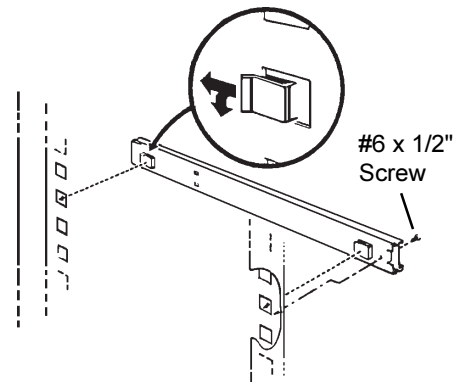

Figure 6. Drawer Slide Installation
8. Take one slide (*Figure 6.*) and insert the clips (Inset) into the front and rear notches of the drawer support panel. Push the slide to the rear and down. Secure the slide through the end access hole in the slide.